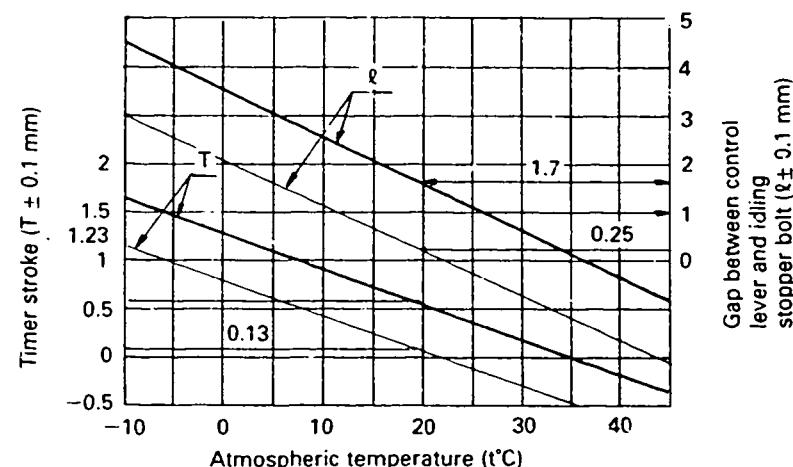

Fig. 2
② With the control lever positioned as described in ① above, adjust the governor sleeve so that the Timer Stroke conforms to the specified values (Item 1 ~ 7).
- Calculate the timer stroke from Fig. 2 according to the atmospheric temperature at the time of adjustment.
Formula for calculating Fig. 2
1. Calculate the block gauge dimension $\ell \pm 0.05$ mm from Fig. 2 according to the atmospheric temperature at the time of adjustment.
2. Insert the block gauge (thickness gauge) selected in Step (1) above between the bracket and the idling stopper bolt.